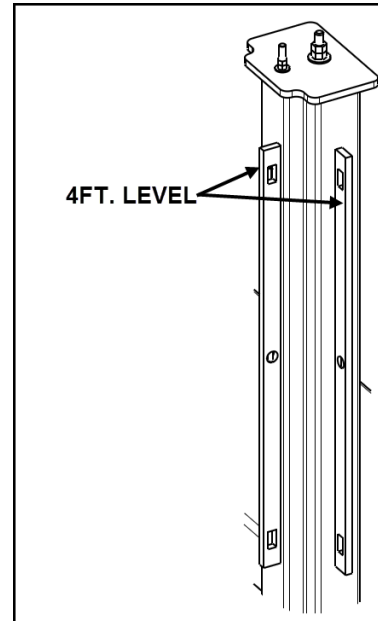

Figure 30: Leveling
6. Use a 4' level, to level the posts. See **Figure 30**.